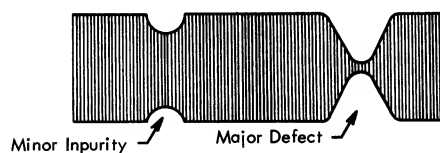

Figure 95. Tape Defects
3. The defect will appear as glitch on the pattern (Figure 95).